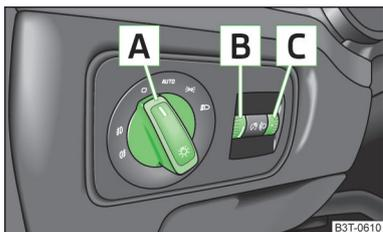

Fig. 49
The arrangement of the controls right-hand drive models may differ from the layout shown in » Fig. 49 on page 68. The symbols which mark the positions of the controls are identical.
Depending on the equipment configuration, the light switch **A** » Fig. 49 can be moved to the following positions.
Turning the dial **B** » Fig. 49 from the position **1** to **3** gradually adjusts the headlight range control and thereby shortens the light cone.
Turning the rotary switch **C** » Fig. 49 when the lights are switched on adjusts the brightness of the instrument lighting » Fig. 49.
- ✓ The light switch is in the position 0 or AUTO » Fig. 49 on page 68.